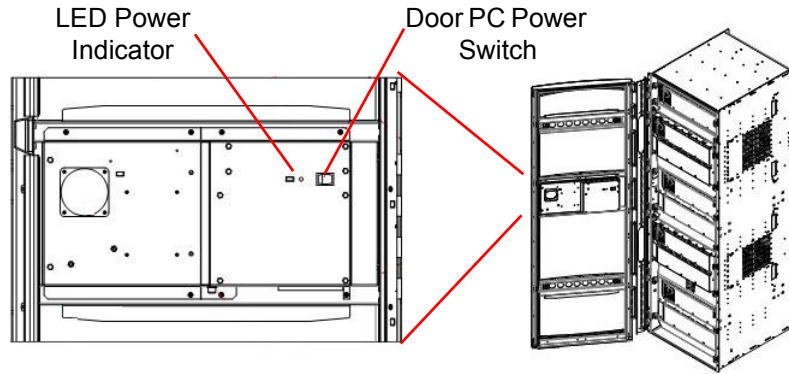

Fig 28. Door PC
2. Inside the back of the door is the power switch for the Door PC (see Fig 28.).
1. Alternatively open the door and press and release the Door PC power switch (see Fig 28.). The power switch does not latch in place.